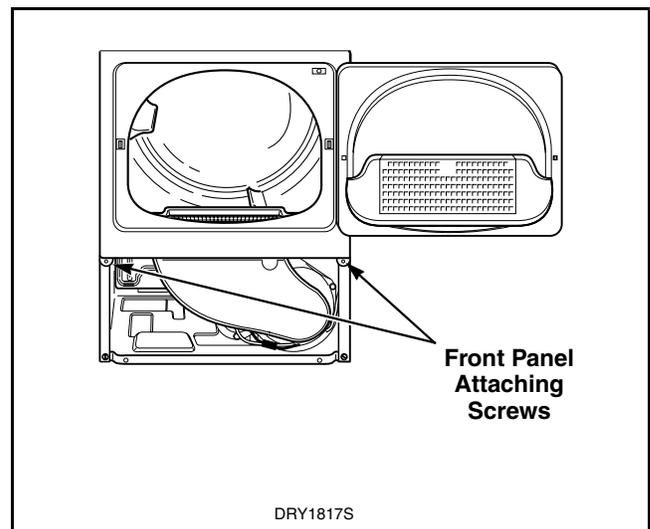

Figure 8
- c. Remove two screws holding bottom tabs on front panel to dryer cabinet. Refer to *Figure 8*.
- c. Remove two screws holding bottom tabs on front panel to dryer side panels. Refer to *Figure 8*. Swing bottom of front panel away from dryer far enough to disengage hold-down clips and locators from cabinet top.
- c. Remove two screws holding tabs on front panel to dryer side panels. Refer to *Figure 8*. Swing bottom of front panel away from dryer far enough to disengage hold-down clips and locators from cabinet top.